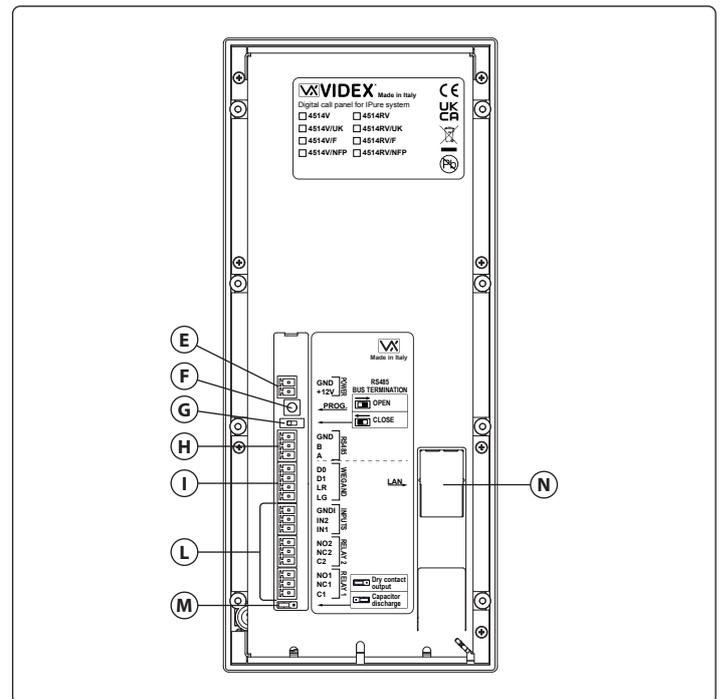

Fig. 2 Back
- Press and keep pressed the **F** button (**Fig. 2 on page 1**) then connect again the power supply source.